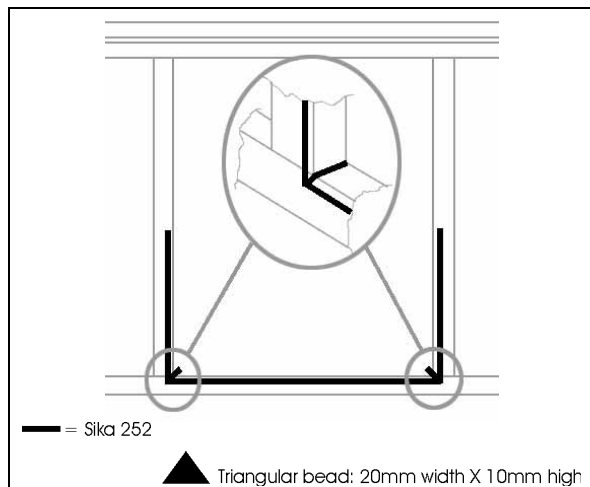

FIGURE 77 : SLIDING WINDOW - SIKa 252 APPLICATION
4. Apply Sika 252 as per FIGURE 77 (triangular bead: 20mm width X 10mm high [13/16" X 3/8"]).